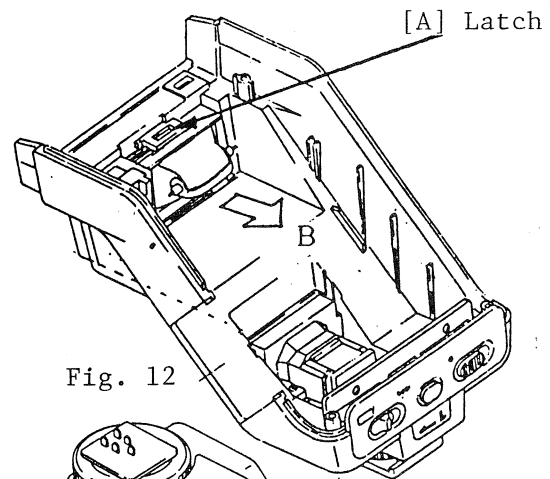

Fig. 12
- 4.1 Lift up gently on latch [A] (Fig. 12) and pull the preflash head backwards [B] .